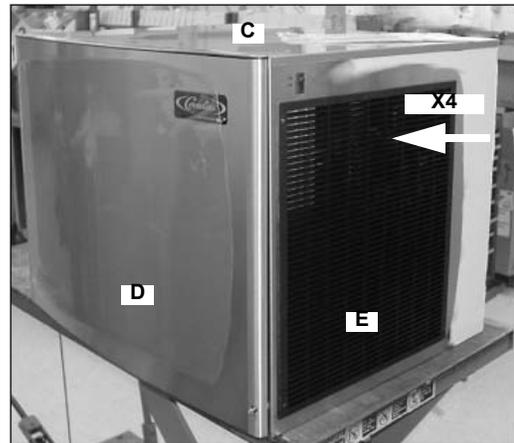

Figure 54.
64. Replace the top cover (C) and the front panel (B). Attach the louvered panel with (4) black, hex head screws (Figure 54).